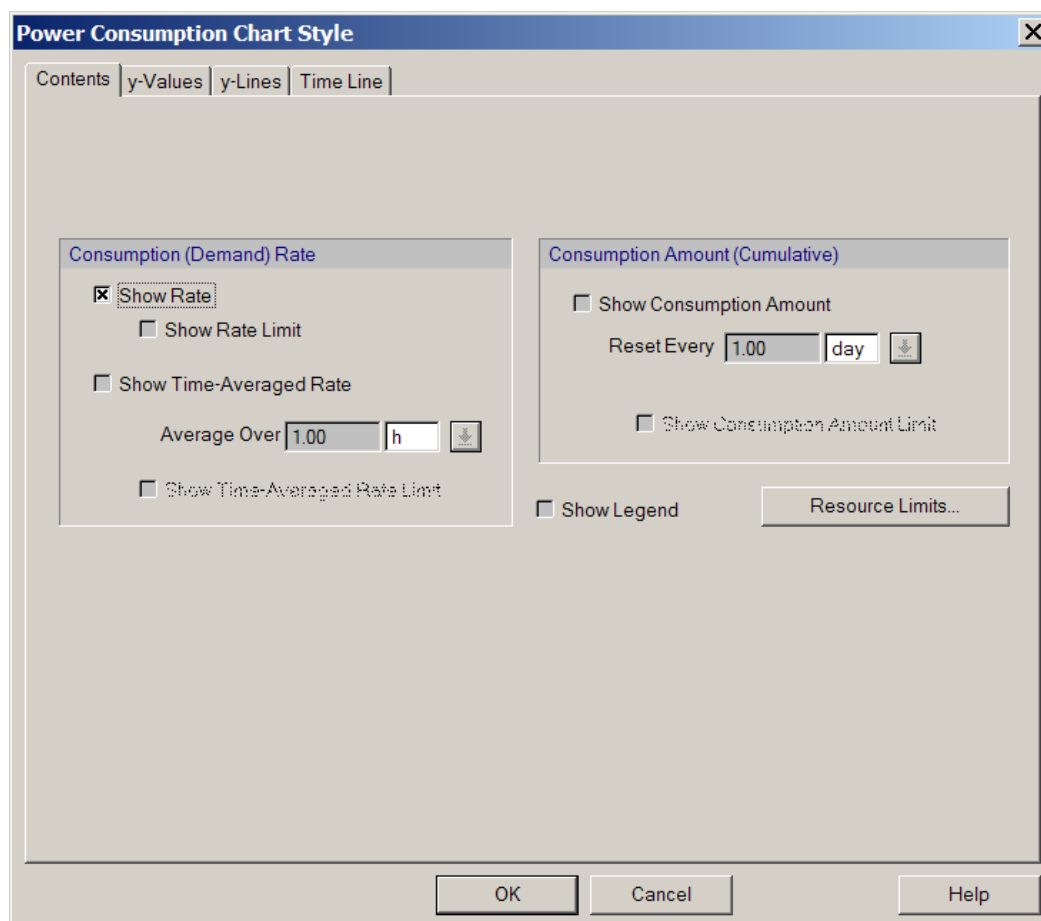

Fig. 7.6: The resource chart's visual style dialog.
Press on the **Chart Style** button to get the dialog shown in Figure 7.6 (see section 7.6.6 for information on the visual style). The chart will come up in a separate window. Sometimes this may take a few seconds (depending on the speed and memory of your PC and the size of your recipe).
Power is being consumed during different stages of the process. Several operations may need power to be carried out. You can display this chart by selecting **View / Resource Consumption Tracking Chart / Power ...** option from the application's main menu. Press on the **Chart Style** button to get the dialog shown in Figure 7.6 (see section 7.6.6 for information on the visual style).
3. Press on the **Chart Style** button to get the dialog shown in Figure 7.6 (see section 7.6.6 for information on the visual style).